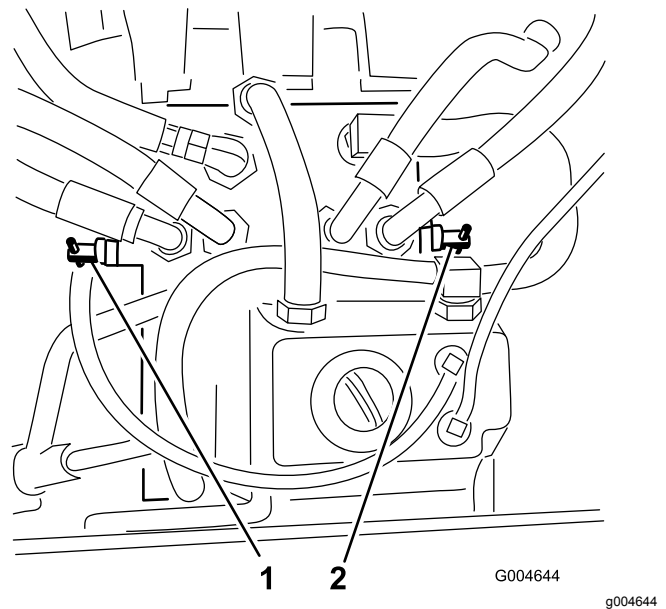

Figure 57
3. Rotate each bypass valve counterclockwise 1 turn (Figure 57).